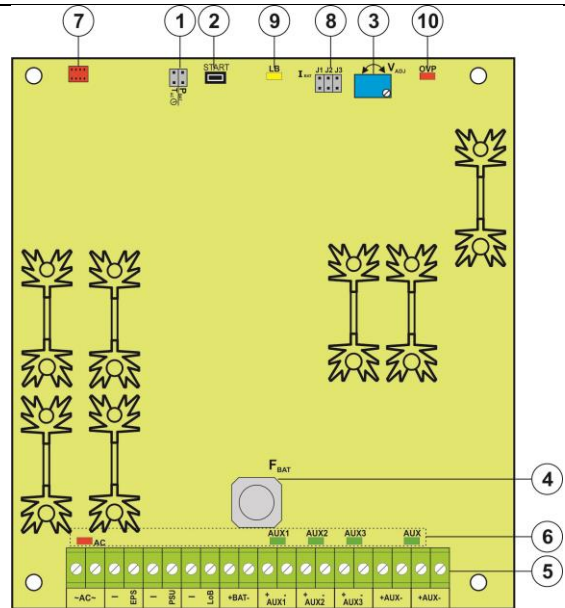

Fig. 2. The view of the Power supply PCB.
1.3 Description of components and power supply terminals (Table 1, Fig.2).
Table 1. Components of the Power supply PCB (Printed Circuit Board) (see Fig. 2).
2	Printed Circuit Board (see Table 1, Fig. 2)